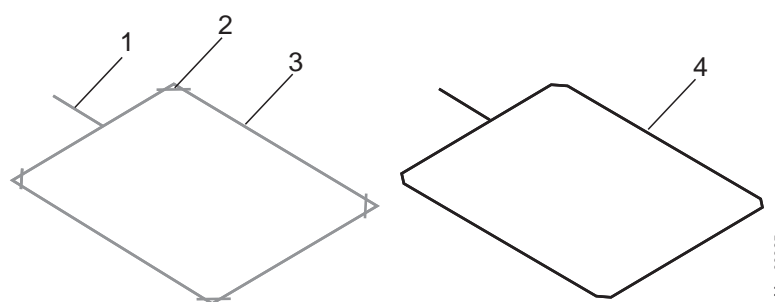

Fig. 19: Installing induction loop in bitumen, asphalt, or concrete
1. Cut a 50 mm deep groove into the surface or asphalt using a cutting disc. The groove must be equally deep at every point. According to Fig. 19 the corners of the groove must be cut in a 45° angle.